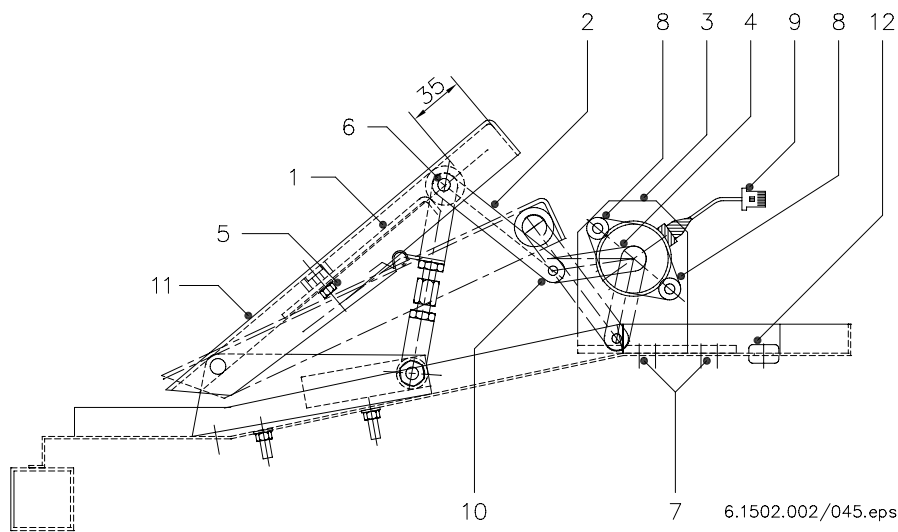

Figure 6 Accelerator pedal FHX400 EDC
The accelerator pedal is the same pedal which is used for left-hand drive Futura coaches, however, with several modifications. The construction of this pedal is shown in Figure 6.
2. By means of the two bolts {5} and strip {1} set the distance between the guide rollers and the pedal to 35 mm; see Figure 6. This distance must be accurately set, as it determines the stroke of the accelerator-pedal position sensor and, thus, the minimum and maximum engine speed.
1. Secure the position sensor by means of nuts {8} and {10} as indicated in Figure 6. The position of strip {4} with respect to the position sensor has been correctly fixed by MAN and may not be changed.